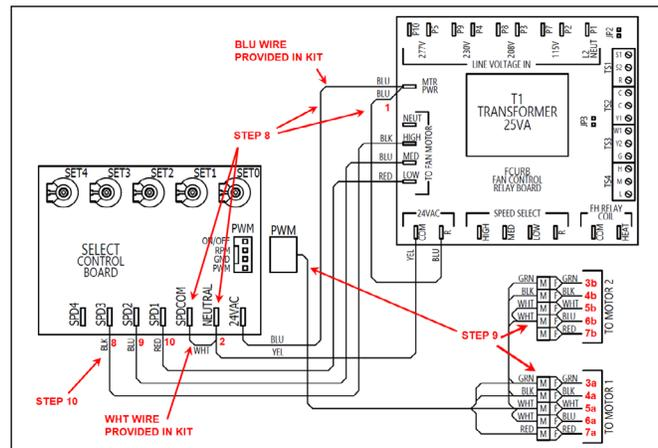

Figure 12 – Select PWM Electrical Connections
CONNECT POWER TO SELECT PWM (See Figure 12)
CONNECT MOTOR SIGNAL TO SELECT PWM (See Figure 12)
CONNECT FAN CONTROL WIRES TO SELECT PWM (See Figure 12)
- Ensure that the new wires have been connected as specified in Figure 12.